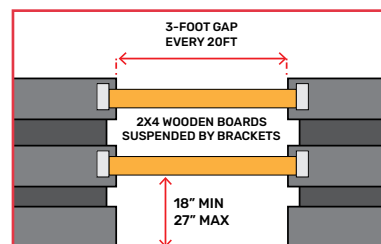

Figure 2
- The gap must be kept clear of any tables and chairs or other elements, as well as barricading. The barrier must be easily removable by emergency personnel (see Figure 2).